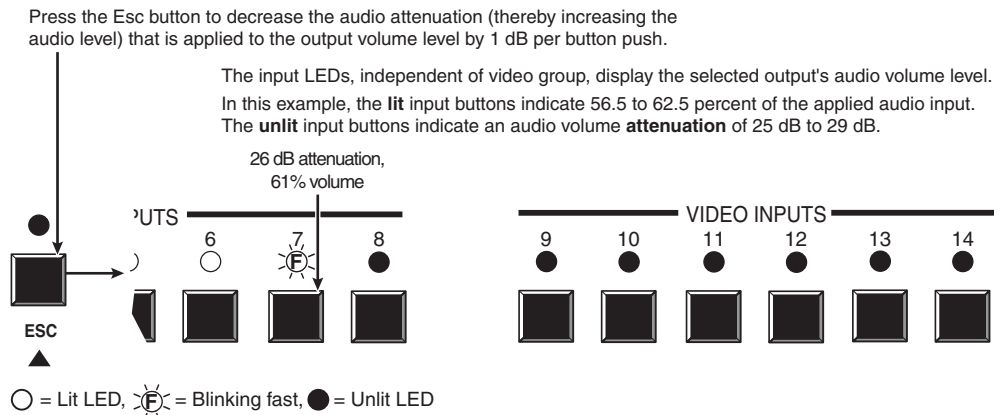

Figure 3-60 — Adjust the output audio volume
4. Press and release the Esc (▲) button once (figure 3-60) to increase the volume by 1.5%.
Press and release the Esc (▲) button several more times (figure 3-60) to increase the volume by 1.5% per push of the button. Note the input LED indication changes that occur each time the Esc (▲) button is pressed and released.
Figure 3-60 show the result of pressing the Esc (▲) button a total of 13 times.